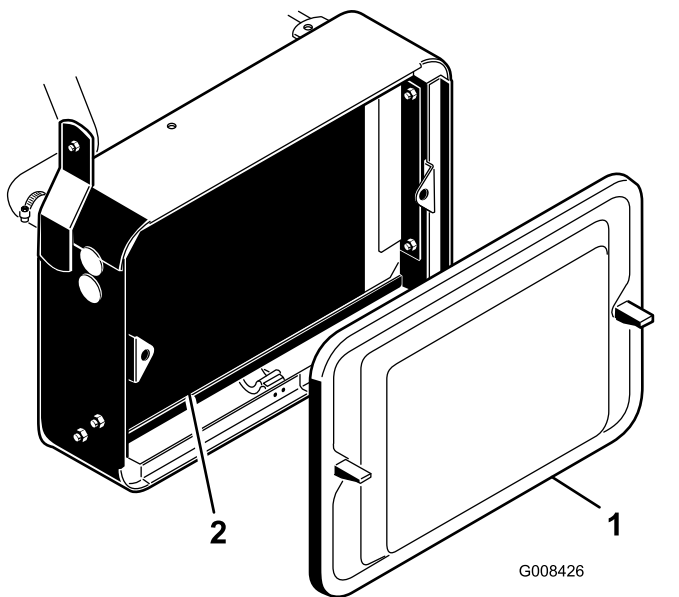

Figure 43
1. Remove the radiator screen (Figure 43).